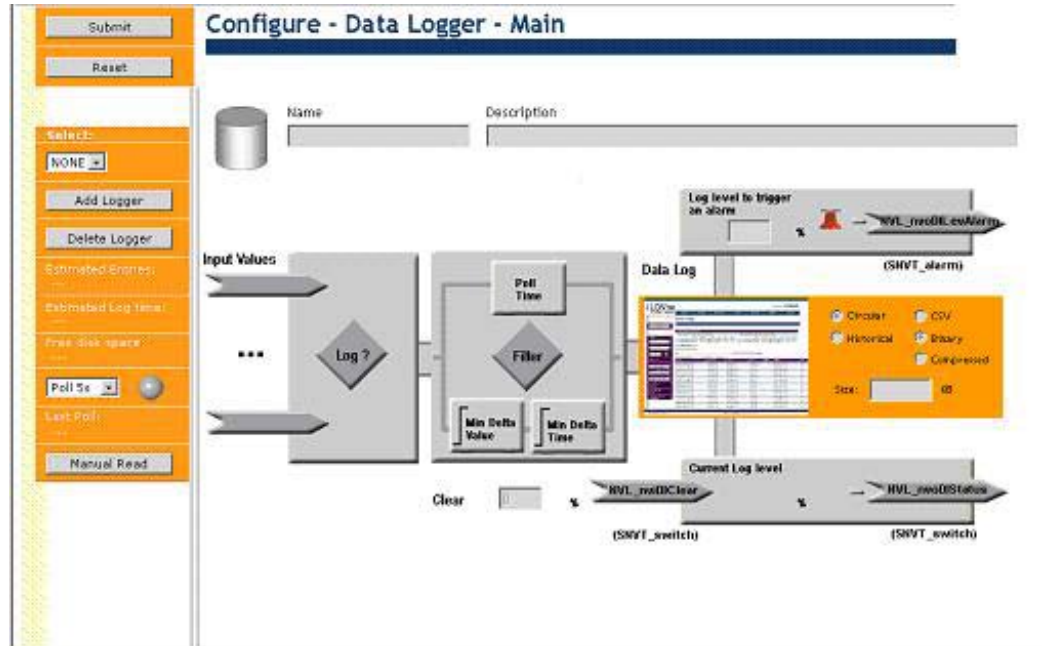

Figure 7.1 Configure – Data Logger – Main Web Page
2. Point your mouse cursor to **Configure**, and then select **Data Logger** from the drop-down menu. The **Configure - Data Logger – Main** Web page appears, as shown in Figure 7.1.
- Once you have created a data logger, you must add one or more points to be logged to it. To add data points to a Data Logger, click the **Log?** or **Filter** diamond on the **Configure - Data Logger – Main** Web page shown in Figure 7.1. The **Configure - Data Logger – Data Points** Web page opens.